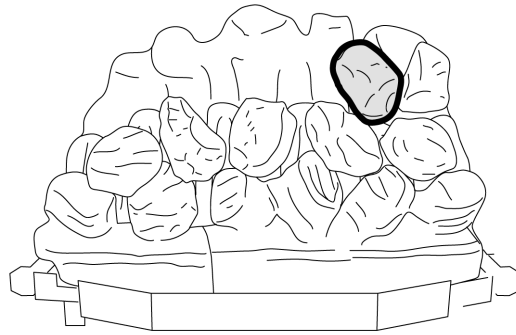

Figure 22. Third row "Coal H"
17. Hold coal 'H' upright with the arrow pointing to the top. Locate coal 'H' as shown in figure 22